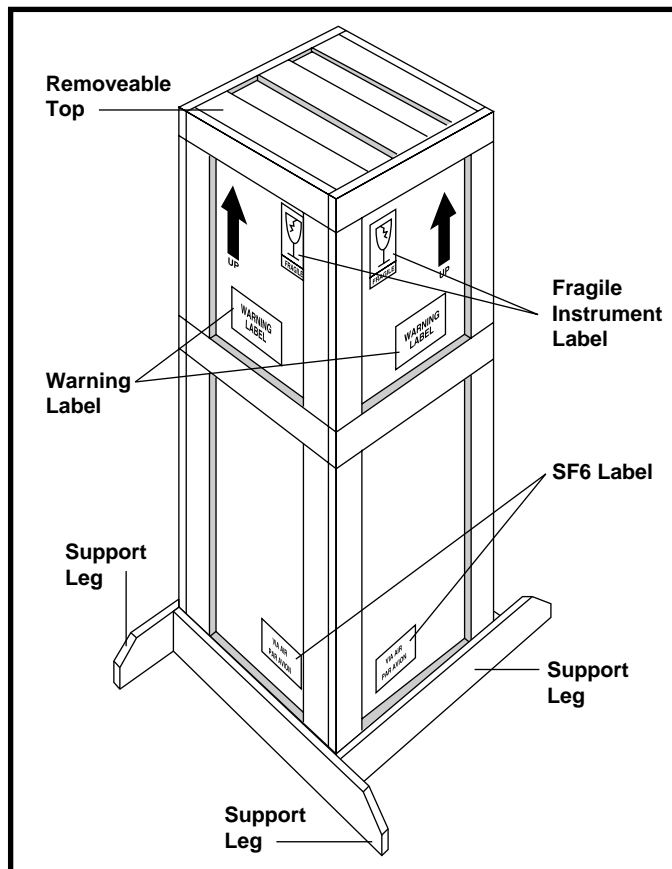

Figure 2-1:
1. Construct a wooden shipping carton for the Tubehead Assembly similar to the one in Figure 2-1. Build the carton so that the top can be completely removed to facilitate packing and unpacking.
3. Affix supporting legs to the bottom of the carton. Make sure the legs extend between 7 and 10 inches from the edges as shown in Figure 2-1.